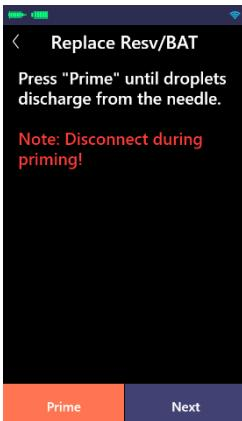

Figure A.2.21
(3) Prime. Press or click "Prime" until droplets discharge from the needle, then click "Next" (as shown in Figure A.2.21).